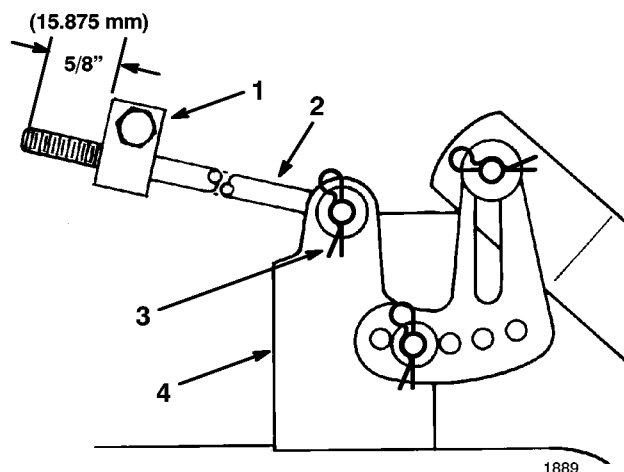

Figure 51
5. Measure the length of the rod extending out the front of the adjusting block on the sides of the chassis (Fig. 51). If the rod length is not 5/8" (15.875 mm), remove the hair pin cotter and washer from the end of the rod (Fig. 51), and turn the rod until the 5/8" (15.875 mm) dimension is obtained. Then install the end of the rod into the hole in the mower mount and secure in place with washer and hair pin cotter. Repeat this procedure on the opposite side of the mower.